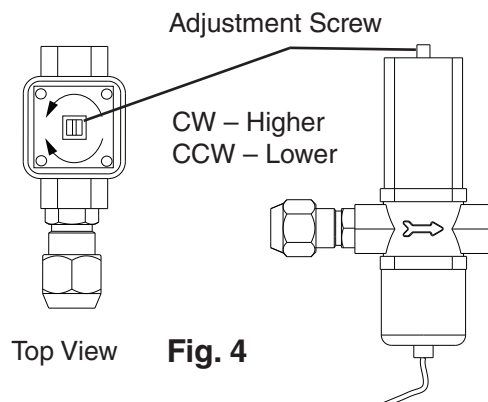

Fig. 4
- 2) 5 min. after a freeze cycle starts, confirm that the thermometer reads 104°F to 115°F (40°C to 46°C). If it does not, rotate the adjustment screw by using a flat blade screwdriver until the temperature is in the proper range. See Fig. 4. Next, check that the reference pressure is in the range indicated in the Head Pressure table in the Performance Data section. If it is not in the proper range, verify the refrigerant charge.